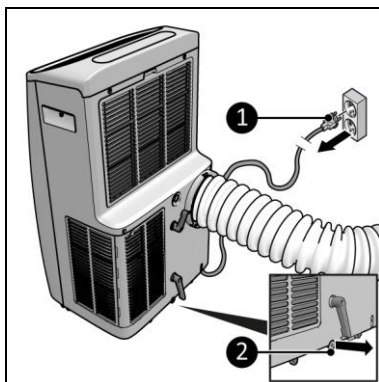

Figure 16
1. Make sure the device is switched off and the plug is removed from the power outlet (Figure 16, pos. 2).
2. Remove the cap from the water discharge point (Figure 16, pos. 2), drain the tank in a container or a well.